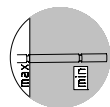

Figure 5-2: Check the oil level with a dipstick
4. **Gear units with an oil level vessel:** The oil level must be checked **in the oil level vessel** with the aid of the dipstick plug (thread G1 1/4). The oil level must be between the upper and lower mark when the dipstick is completely screwed in (see Fig. 5-2). The oil level must be corrected with the correct type of oil if necessary. These gearboxes may only be operated in the configuration stated in Section 6.1.